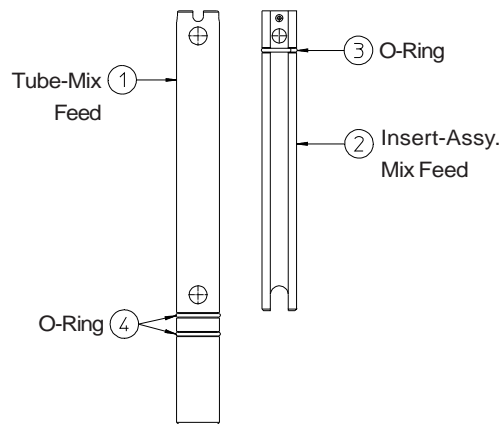

Figure 6-4 Diassemble Mix Feed Tube
8. Remove the mix feed tube assembly from the hopper, as shown in Figure 6-4 and remove the o-rings (2).